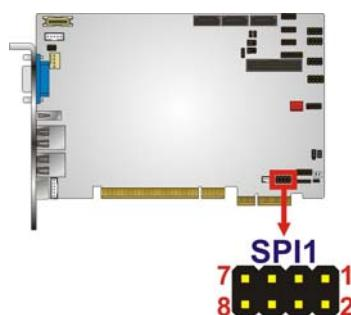

Figure 3-18: SPI Flash Connector
**CN Location:** See Figure 3-18